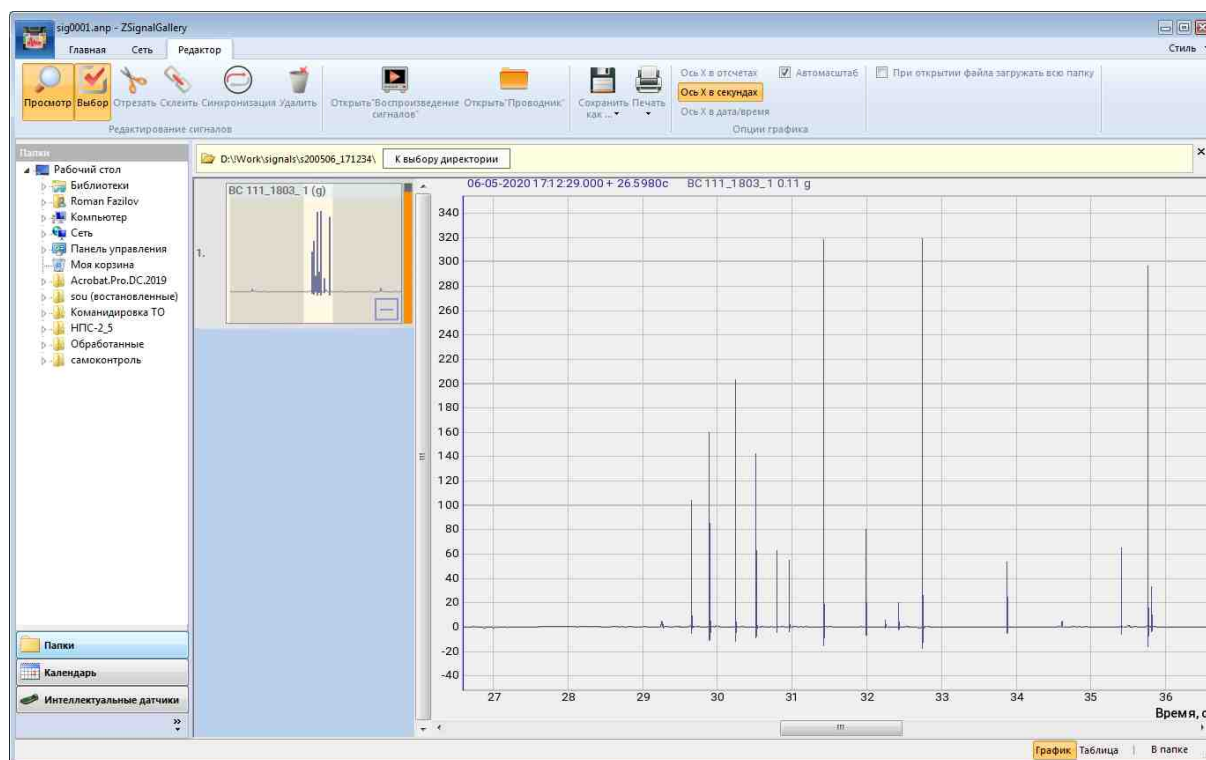

Fig. 1.2 Signals gallery program
3. Wait for the Signals recording to finish. To view the recording results, open the folder with registered signals in the “**Signals recording**” program window by pressing the “” button. From the directory that opens, open a file with the extension “.ana” by the "Signals gallery" program from the "Display" menu of the ZETLAB panel (*Fig. 1.2*).